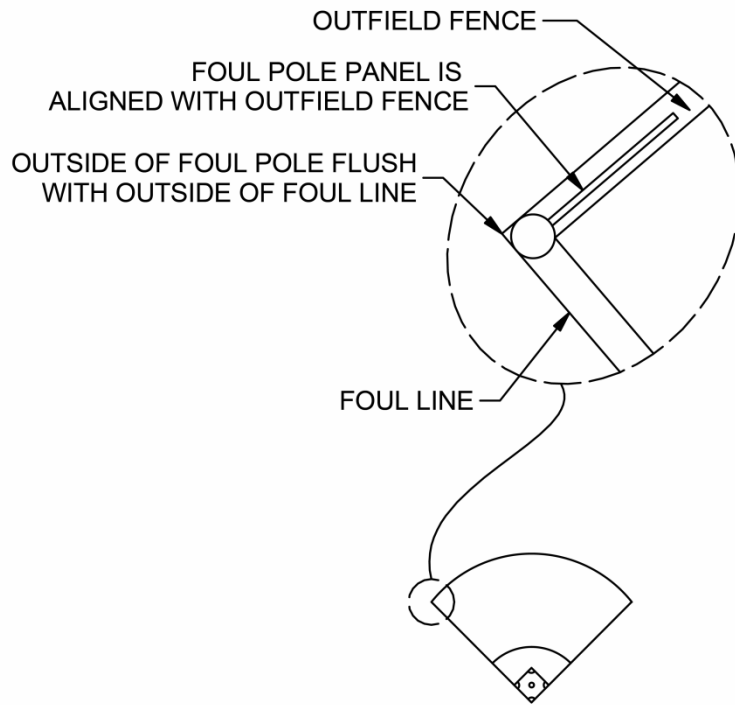
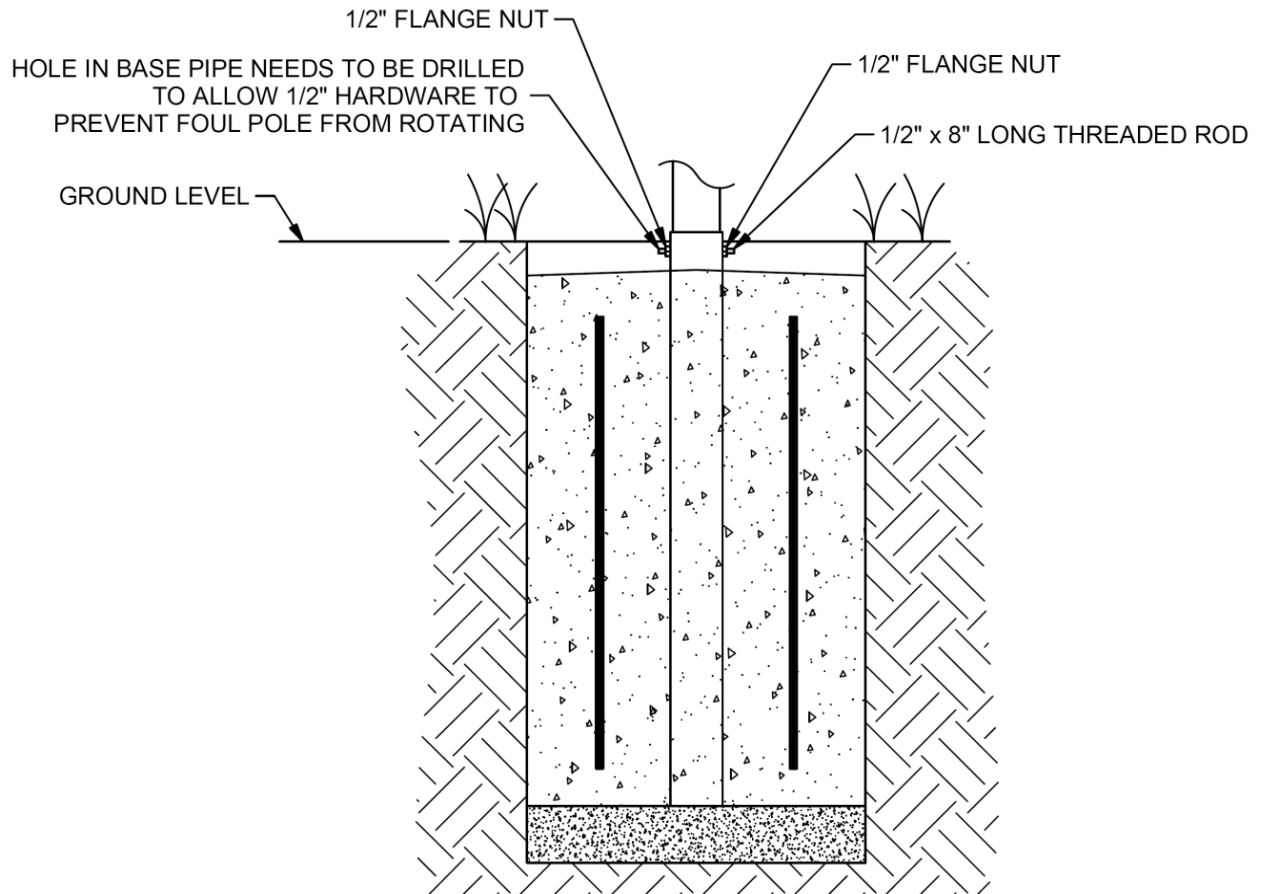

FIGURE: 1
FIGURE: 12
1. Determine the proper location of foul poles on the playing field, as shown in figure 1. Dig the footing holes to the dimensions as shown on the illustration on the next page. **These are suggested dimensions for average soil conditions, consult local building codes.**
5. Using a lifting device (crane) insert the assembled foul pole into the ground sleeve. Rotate the post so that the panels are to the inside of the field (figure 1). Drill a hole thru the post using the hole in the ground sleeve as a guide (figure 12).
6. Install the 1/2" thread rod and flange nuts (figure 12).